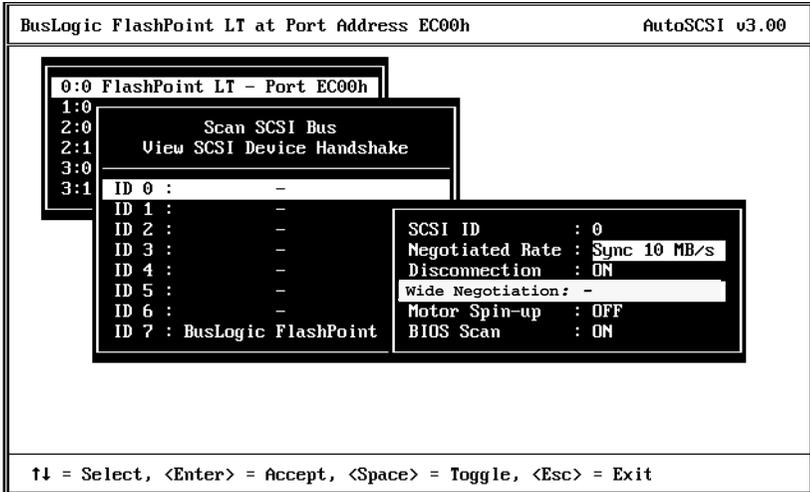

Figure 3-11. Switch Settings Window
4. To view a table of switch settings for an unscanned device ID, use the arrow keys to highlight an unscanned device ID and press <Enter>. A list of switch settings for the selected device ID is displayed (see Figure 3-11).